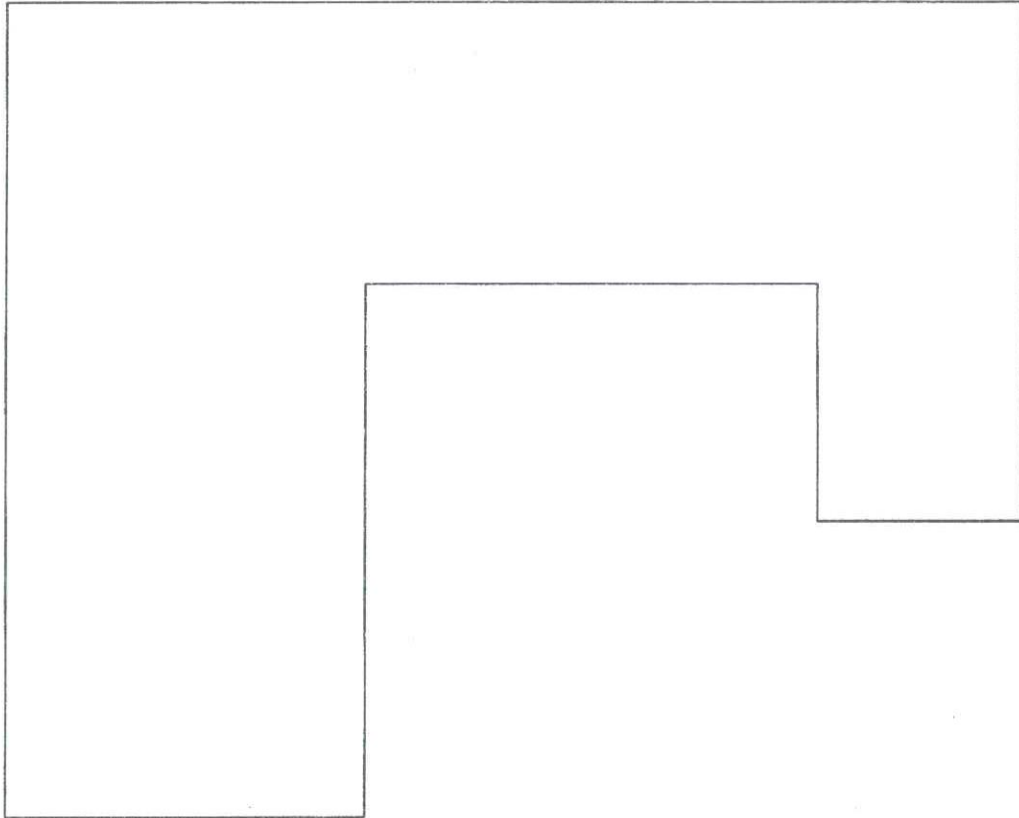

Figure Q4: House Shape
- d) Develop a roof plan for the house shape shown in Figure Q4 and name the parts of the roof. [4.0 Marks]